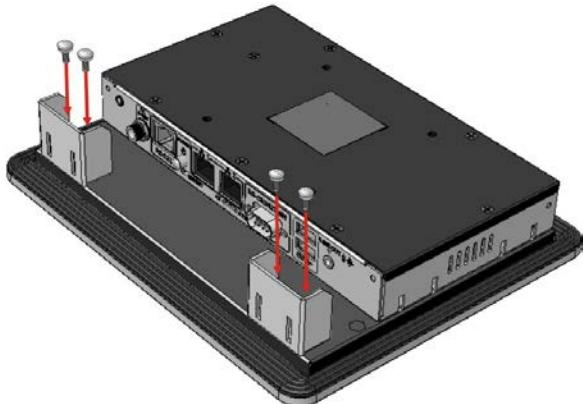

Figure 3-22: PPC-F10B-BT Mounting Bracket Installation
Step 1: [PPC-F10B-BT Only] Install two mounting brackets onto the rear panel of the PPC-F10B-BT (**Figure 3-22**).